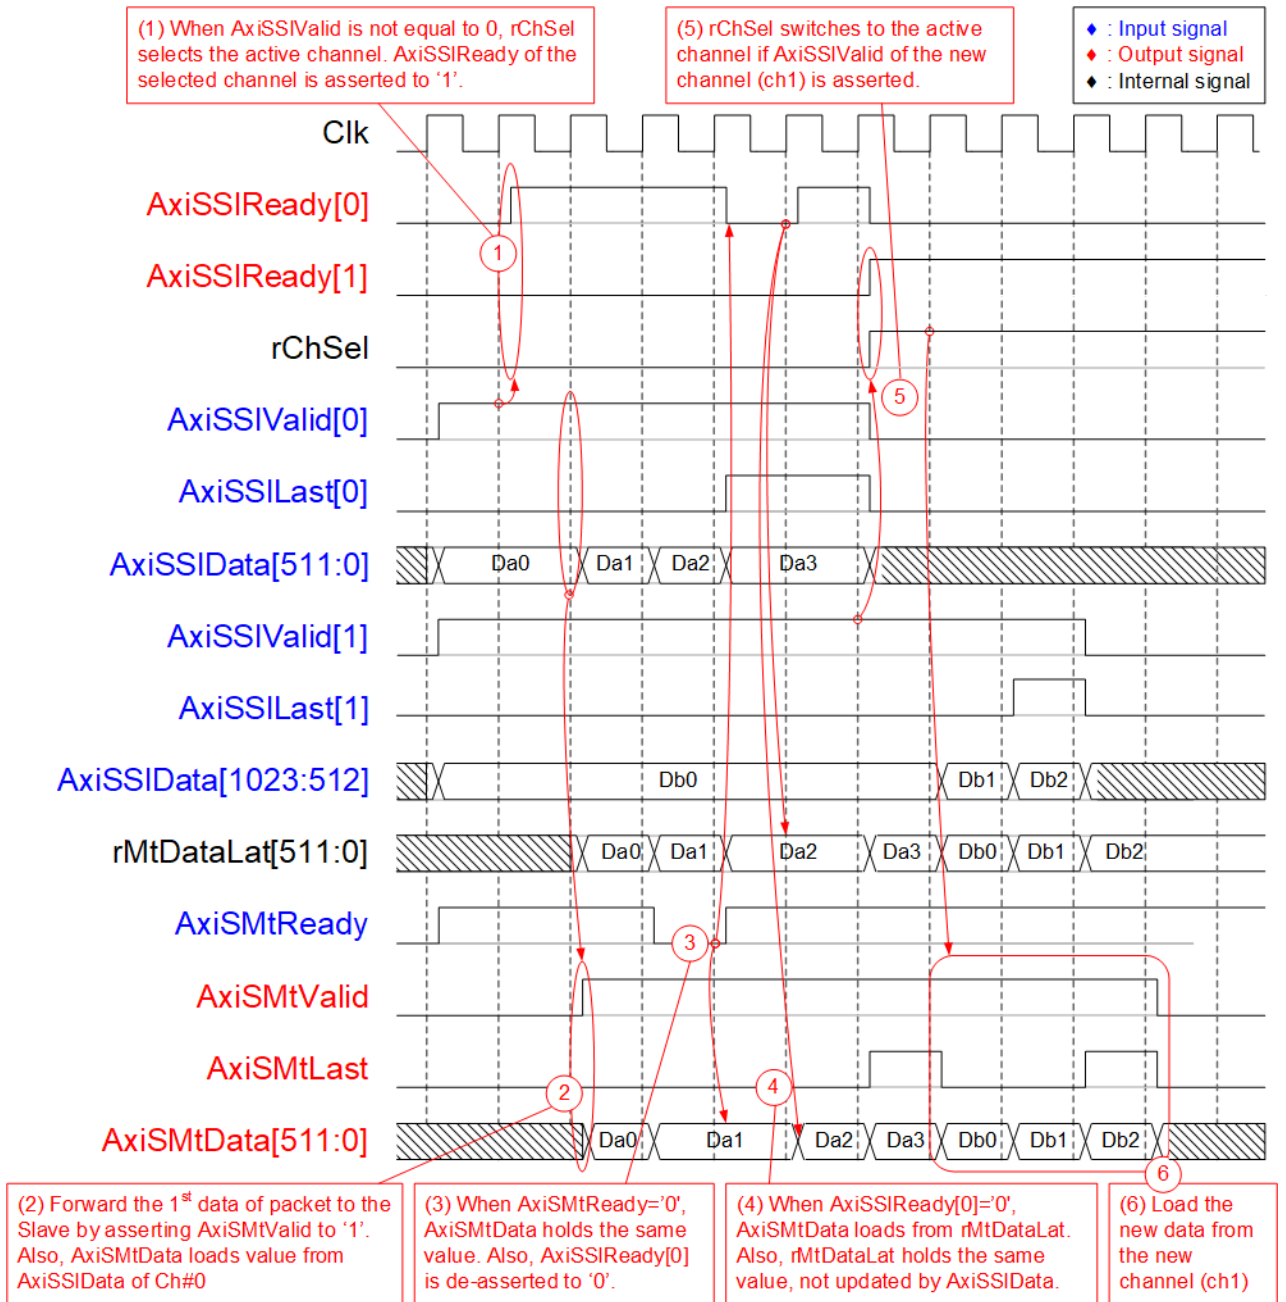

Figure 2-3 AxiSSw2to1 timing diagram
The AxiSSw2to1 logic uses “rChSel” to be the control signal to select the active AxiSSI I/F (the interface to connect to the external Master). When two channels are requested in Idle condition, rChSel changes the value to the new channel after finishing the current channel transferring. More details are shown in Figure 2-3.
1. When two user sends the new packet by asserting AxiSSIVValid to '1' at the same time and the module is in Idle, rChSel (the signal to indicate the active channel) does not change the value to forward the data from the same channel to the Slave. In Figure 2-3, the Ch#0 is selected, so AxiSSIRReady of the selected channel (Ch#0) is asserted to '1' to accept the first data.
5. After the final data of a packet from the active channel is accepted, the next active channel is scanned. If AxiSSIVValid of another channel is asserted, rChSel will switch the value. In Figure 2-3, the next active channel is Ch#1 (rChSel='1') to accept the data from Ch#1.